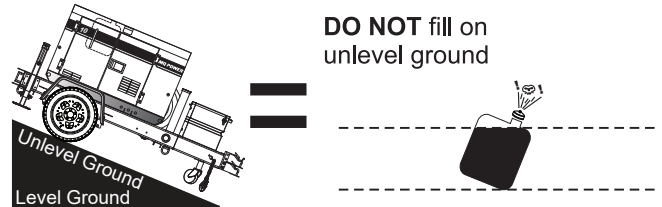

Figure 14. Only Fill On Level Ground
1. **Level tanks** — Make sure fuel cells are level with the ground. Failure to do so will cause fuel to spill from the tank before reaching full capacity (Figure 14).